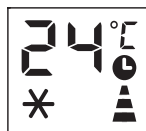

Fig. 5
- When the appliance is running, press the  button, the screen will display hours, and several symbols are flash together. (fig 5)